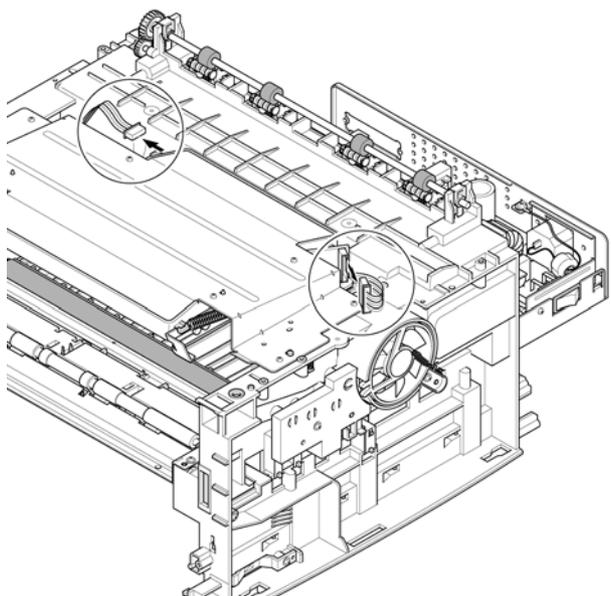

Figure 2
4. Disconnect the LSU connectors, Figure 2.